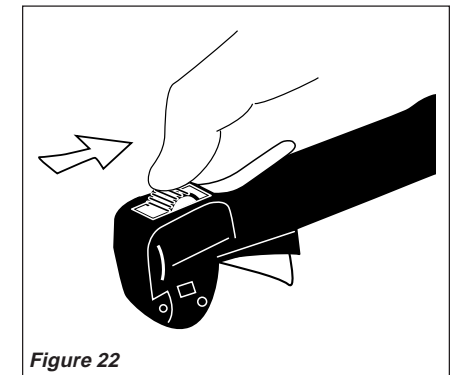

Figure 22
2. Slide the ignition switch to the "O" or STOP position. See Figure 22.